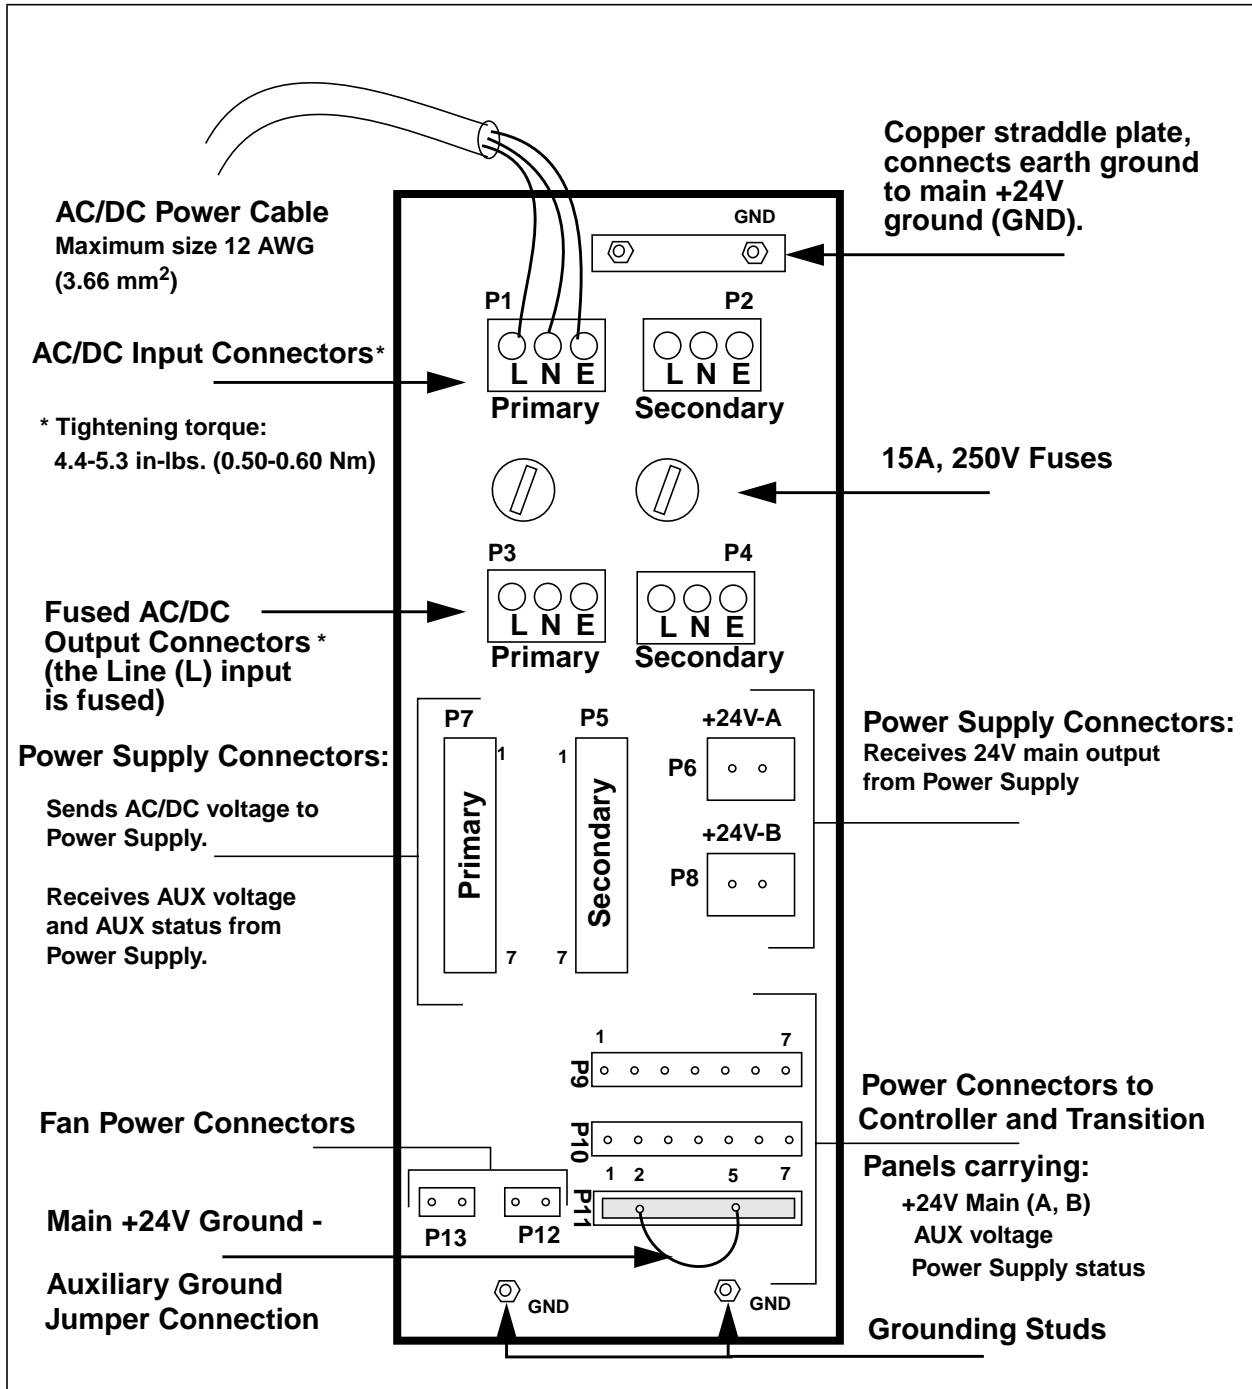

Figure 27-9. Ovation Power Distribution Module (PDM)
- Power Distribution Module (5A26304) - Provides connectors for cables used to distribute +24V to the Redundant Controller Chassis, and +24V and auxiliary power to branches of local I/O (refer to Figure 27-9).
- Power Distribution Module (PDM - 5A26304) - Provides connectors for cables used to distribute +24V to the Redundant RNC, and +24V and auxiliary power to the branches of I/O (refer to Figure 27-9).
- Power Distribution Module (5A26304) - Provides connectors for cables used to distribute +24V to the Redundant RNC and to branches of local I/O (refer to Figure 27-9).